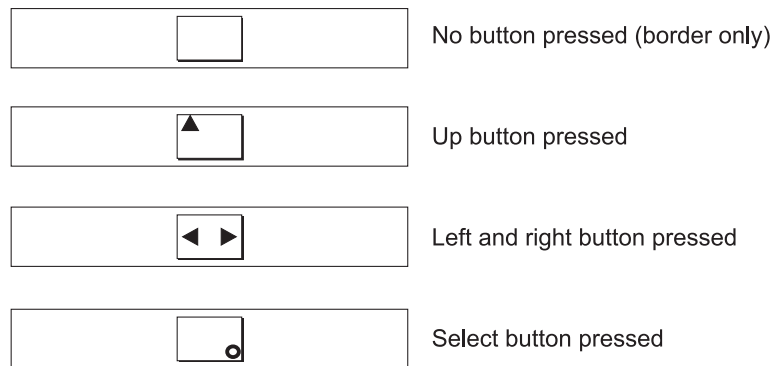

Figure 49. Front-panel display when push buttons are pressed
3. Press the up, down, left, and right buttons to verify that they are working. Figure 49 shows four examples of what the front panel should display when you press the buttons. After you finish testing the buttons, press and hold the select button for five seconds to exit the test.